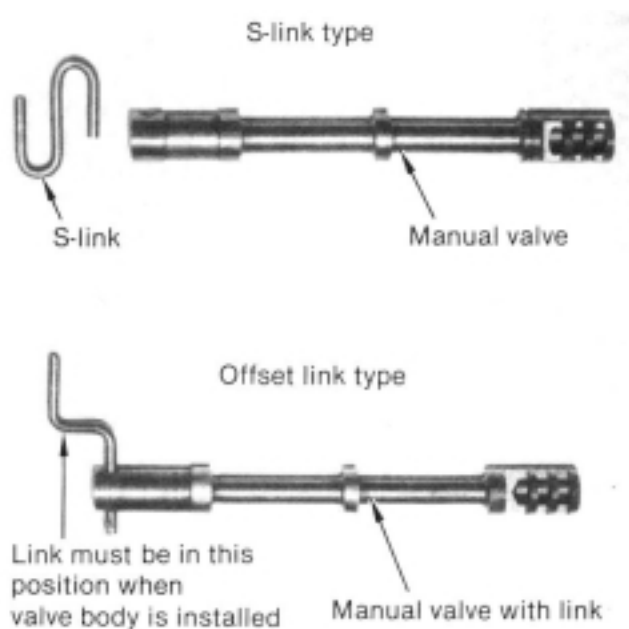

FIGURE 9
"S" link model (See Fig. 9): Rotate the range inner selector lever noting clearance with bolt 'A' (See Fig. 8) If range selector inner lever contacts bolt "A" head or there is not a 1/16" clearance between the two, mark that area of bolt head. Remove bolt & grind or file angle flat at that portion of bolt head. Reinstall bolt and check clearance again. Failure to provide clearance may keep transmission shifter from fully shifting or cause a lock up between drive and second. Failure to provide detent roller engagement into range selector inner lever may prevent transmission from shifting into park.
STEP 13. Remove center pan bolt. Guide valve body into position. Engage manual valve linkage in selector lever. "S" link can only be installed one way. Offset linkage must be installed with the link in the forward position. (See Fig. 9) Install valve body bolts finger tight. Install detent roller spring so it engages range selector inner lever. Tighten valve body bolts to 100 in.-lbs. Make sure range selector inner lever operates freely at this point with positive indexing in each gear.
"S" link model (See Fig. 9): Rotate range selector inner lever all the way forward and check to see that bolt 'B' does not prevent range selector inner lever from going into last detent slot. (See Fig. 8) If bolt head 'B' prevents this action, rotate range selector inner lever out of the way. Remove bolt and grind or file a